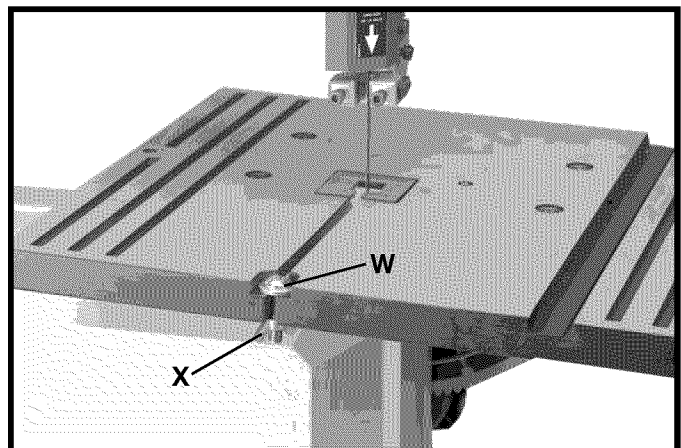

Fig. 12
9. Insert M6 x 30mm screw (W) Fig. 12, down through hole in table, as shown, and fasten in place by using M6 flat washer and M6 wing nut (X).